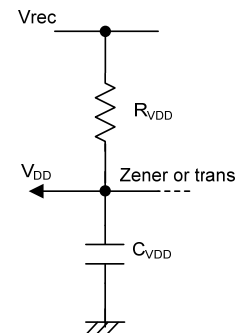

Fig.18 VDD circuit diagram
- R_{VDD} : Refer to fig.18.
- C_{VDD} : Refer to fig.18.